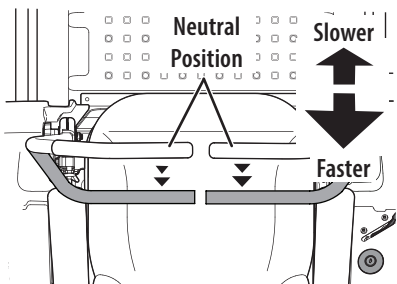

Figure 29
1. Slowly and evenly move both drive control levers rearward. The mower will start to move in the reverse direction (Figure 29).